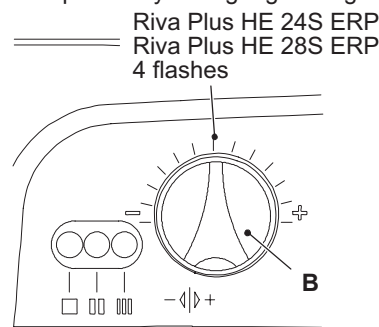

Figure 8.16
It's now possible to check the current setting by pressing reset button D for more than 5 seconds. The three lamps F will flash a number of times corresponding to the setting as in Figure 8.16 (four times). At this point only the right green light flashes.
- 11 To change the setting turn the knob B on a position corresponding to the boiler model (Figure 8.16).